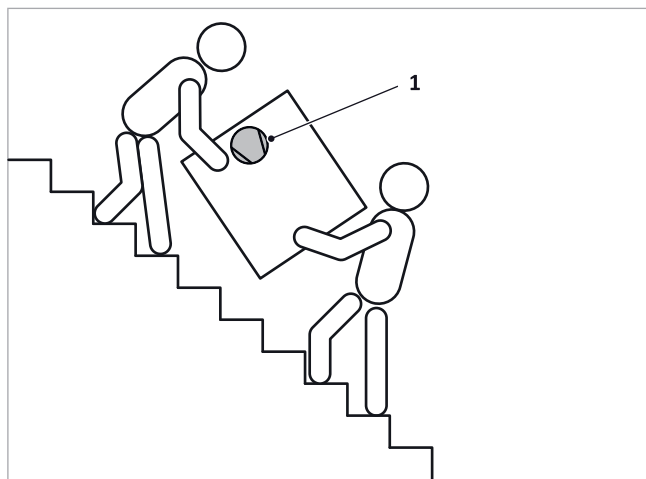

Fig. 2: Carrying on stairs
- If the unit has to be tilted during transport, this must be done only briefly via one of the long sides. The compressor should always be on top; see → Fig. 2 (1).